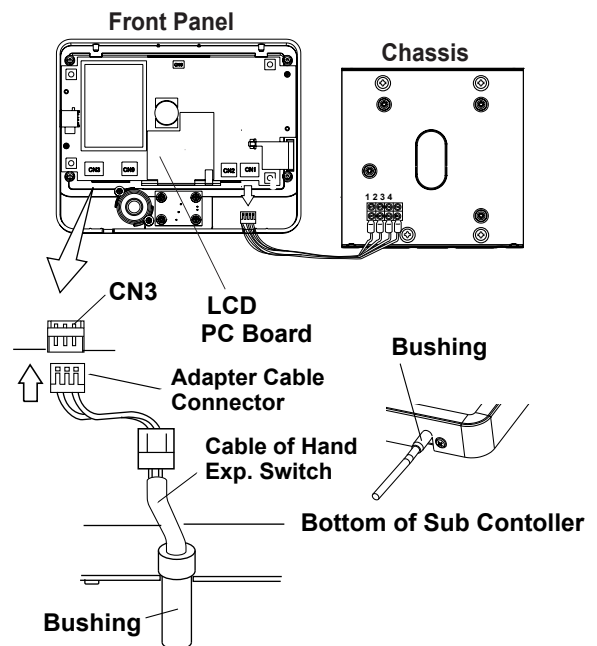

Fig.3-24 Connecting Hand Exposure Switch
4. Connect the connector at the end of adapter cable (red wires) to CN3 connector on the LCD PC board. (Fig.3-24)
5. Insert the bushing of coil cord into the slot at the bottom of the chassis, reattach the front cover and secure two (M3 x 8mm) screws again. (Fig.3-24)